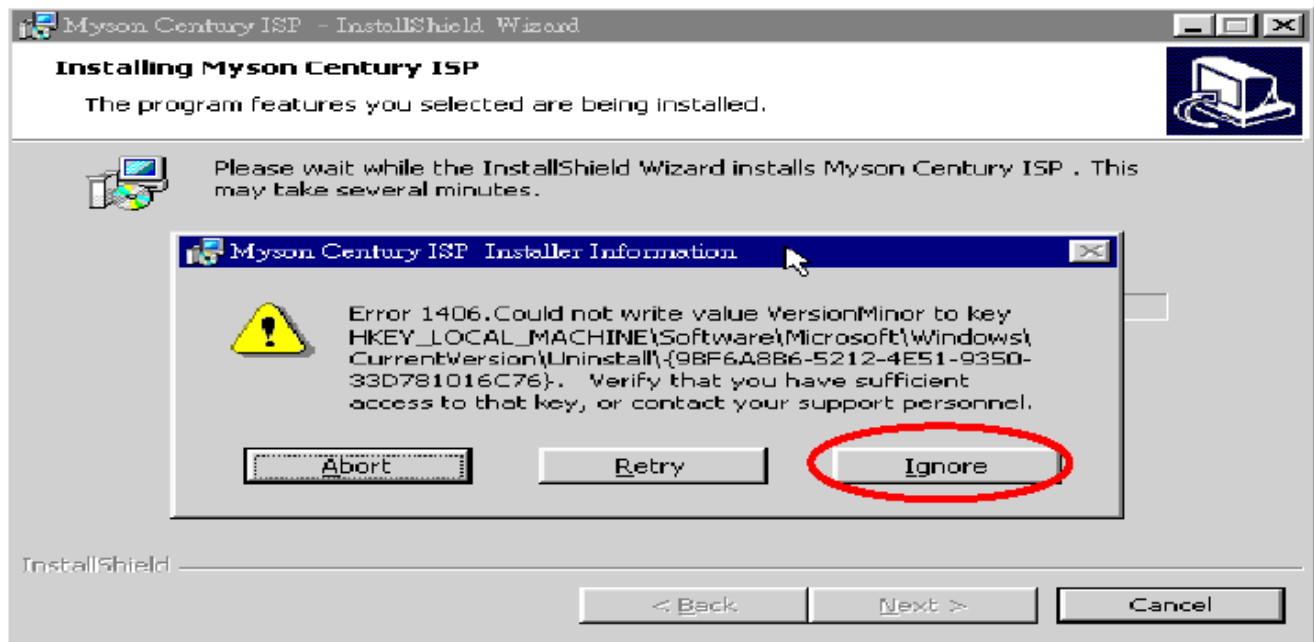

Fig 2.6
2.6 The Installer Information shows package warning, press “Ignore” button to continue, see Fig 2.6.